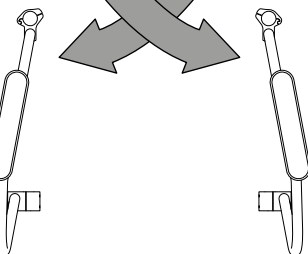

Fig. 16
2. The inverted position gives the thighs additional space (Fig. 16).